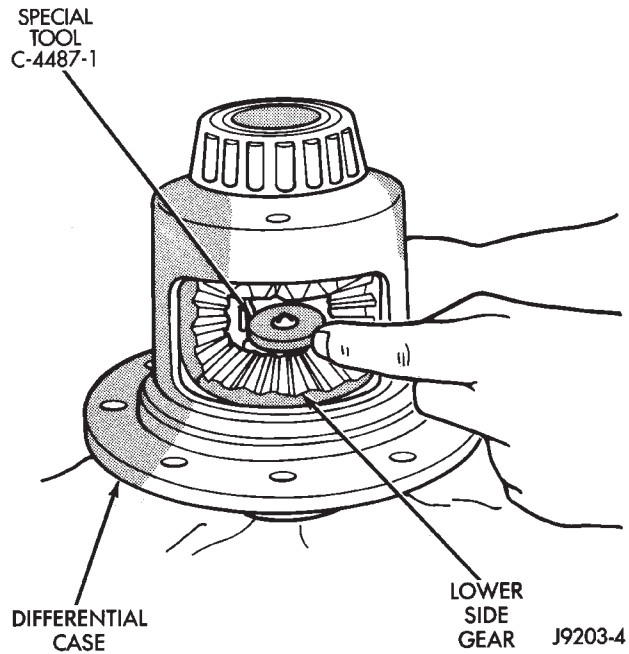
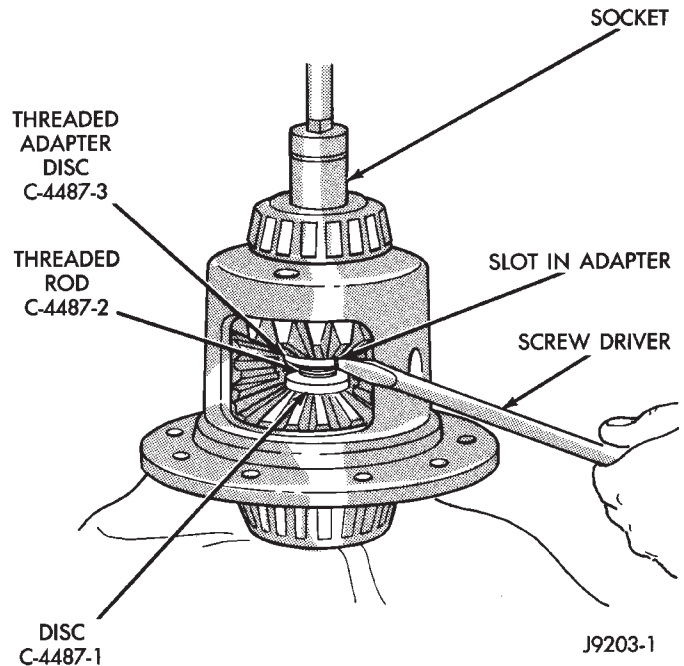

Fig. 8 Step Plate Tool Installation
Fig. 9 Threaded Adapter Installation
(6) Install and lubricate Step Plate C-4487-1 (Fig. 8).
(7) Assemble Threaded Adapter C-4487-3 into top side gear. Thread forcing Screw C-4487-2 into adapter until it becomes centered in adapter plate.
(8) Position a small screw driver in slot of Threaded Adapter C-4487-3 (Fig. 9) to prevent adapter from turning.